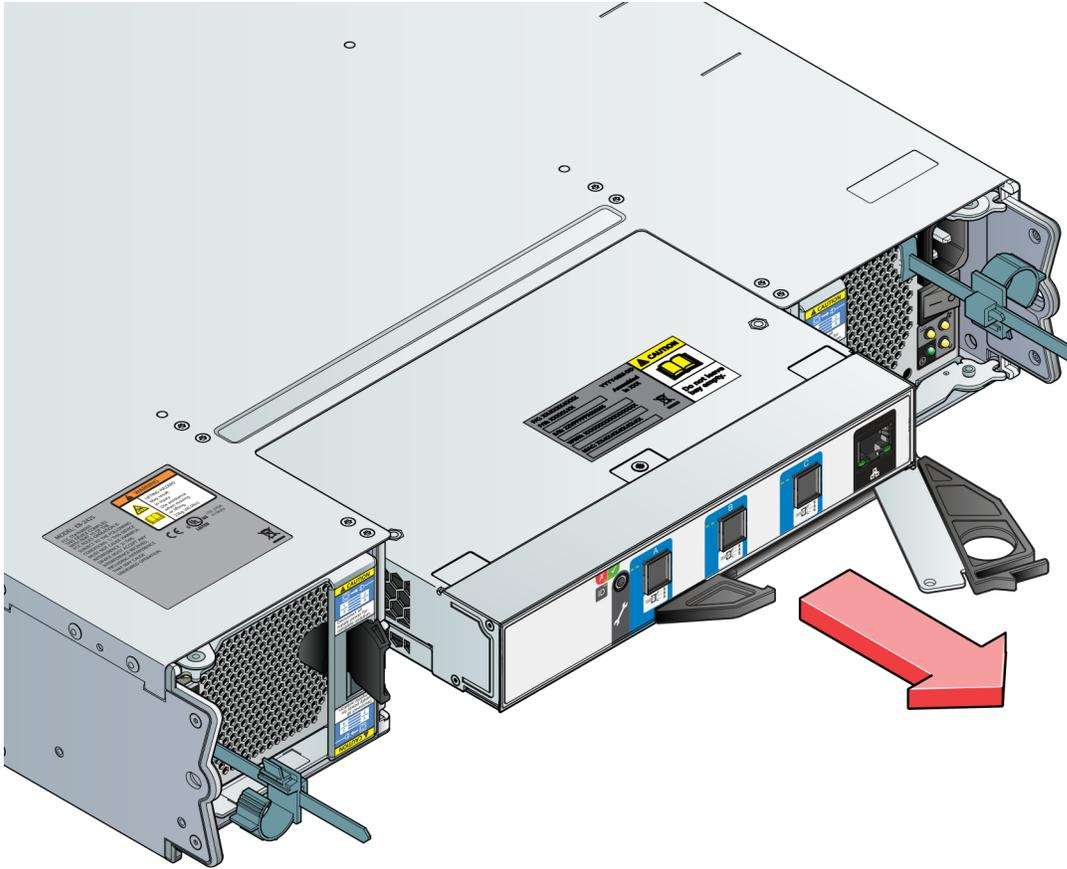

Figure 101. Removing an ESM
3. Grip the latch handles and remove the module (Figure 101 “Removing an ESM” on page 93).